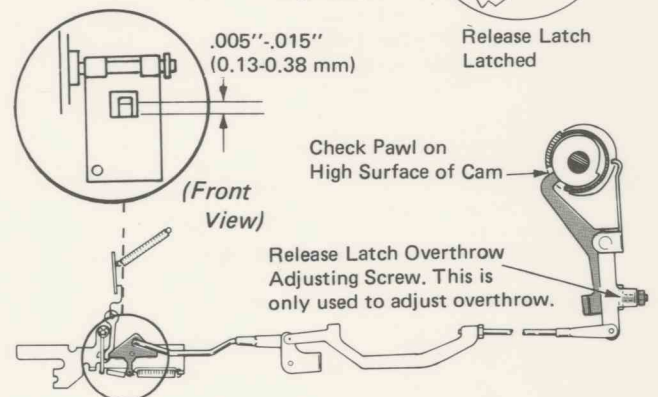

Figure 3
- b. It restores the release latch in the keyboard. As the upper shaft is turned, the keyboard clutch release latch should drive .005"-.015" (0.13-0.38 mm) past the latching surface in the latch plate window (Figure 3).